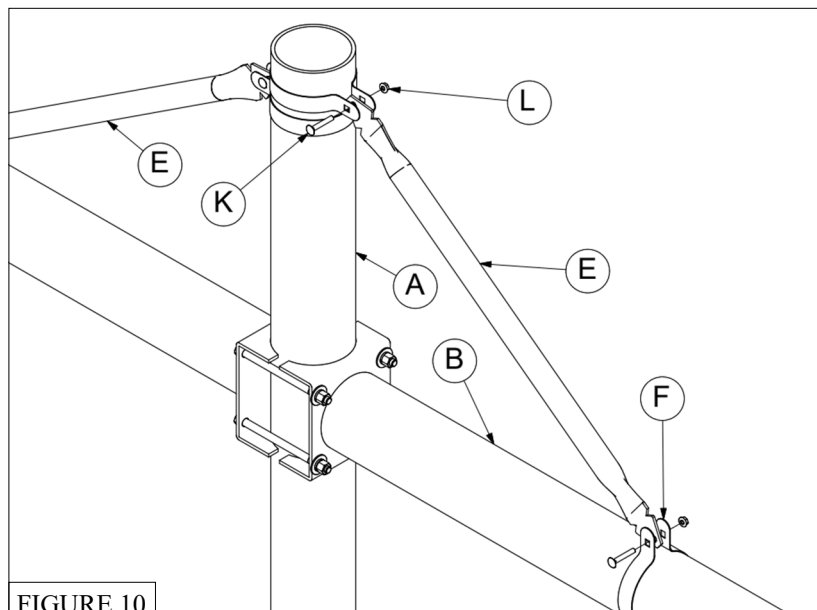

FIGURE 10
14. BA781 and BA781DB pole system includes an *Extension Brace (E)* to add additional stability to the 72" *Extension Arm (B)*. Use *Band Clamps (F)*, 5/16" x 2" *Carriage Bolts (K)* and 5/16" *Flange Nuts (L)* to attach each end of the *Extension Brace (E)* to the *Pole (A)* and *Extension Arm (B)*. See Figure 10.